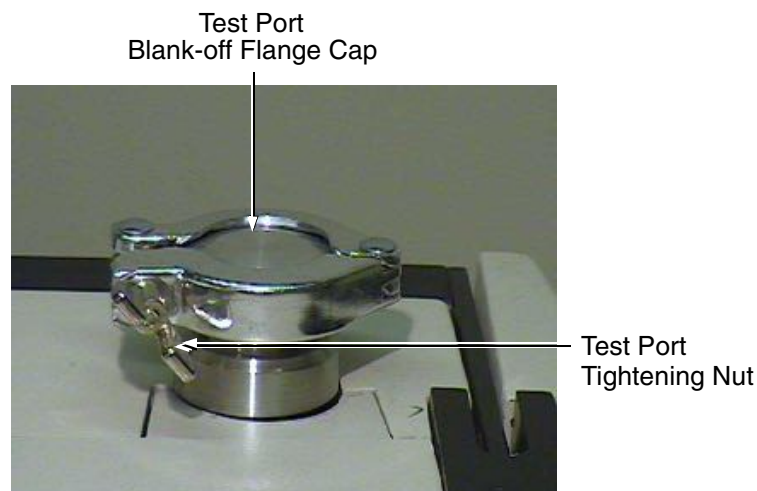

Figure 3-1 Test Port with Blank-Off Flange Cap
1. Turn the test port wing nut counterclockwise to loosen it (Figure 3-1), remove the quick clamp (Varian P/N KQ25AWP) from the test port, and remove any connected devices.